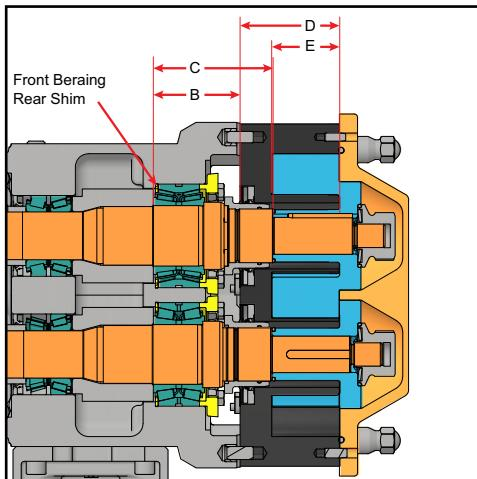

Figure 53 - Measure B, C, D and E
4. If it is necessary to calculate the required shims for replacement shafts, bearings or both, refer to Figure 53; carry measurements and calculations to three decimal places (e.g., .059).
- Measure "B" in the gear case and "C" on the shaft (Figure 53).
- Measure "D" and "E" on the body (Figure 53).
(Callouts for both Figure 53)